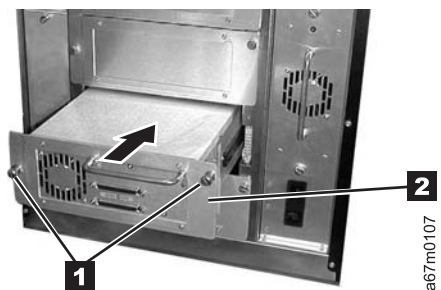
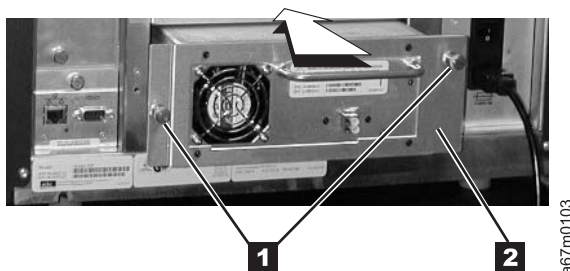

Figure 14-24. Installing a drive sled that contains an Ultrium 1 Tape Drive
Figure 14-25. Installing a drive sled that contains an Ultrium 2 or Ultrium 3 Tape Drive
3. From the rear of the library, locate the drive slot where you want to install the drive sled. Loosen the two captive thumbscrews on the filler plate and remove the filler plate (see **1** in Figure 14-24 or Figure 14-25). Save the filler plate for future drive maintenance activity.